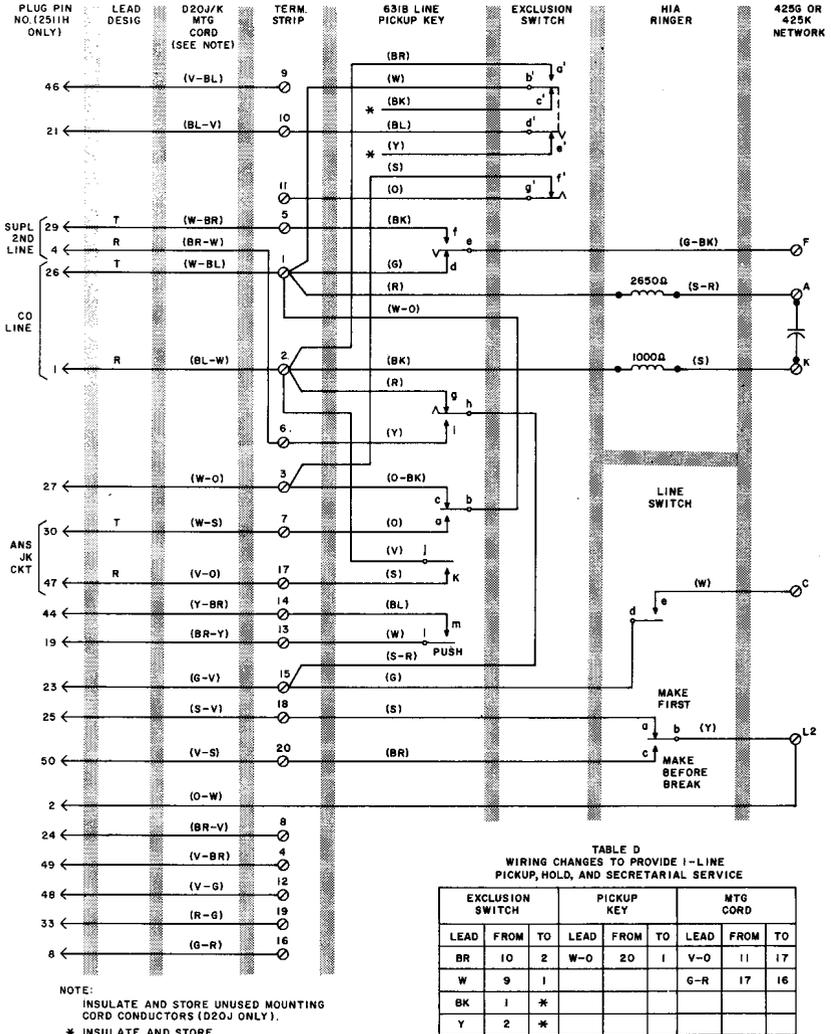

FIGURE 5. 2511F/H Telephone Set Connections, 1 Line Pickup, Hold, and Secretarial Service
- i. 2511F/H Telephone Set Connections, 1 Line Pickup, Hold and Secretarial Service—Figure 5.